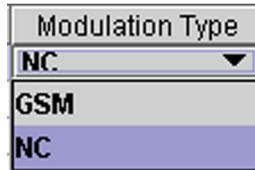

Figure 37. Modulation Type
4. Click on the **Modulation Type** field to display a pulldown list such as shown in Figure 37. From the list, select the modulation type of the channel being configured.